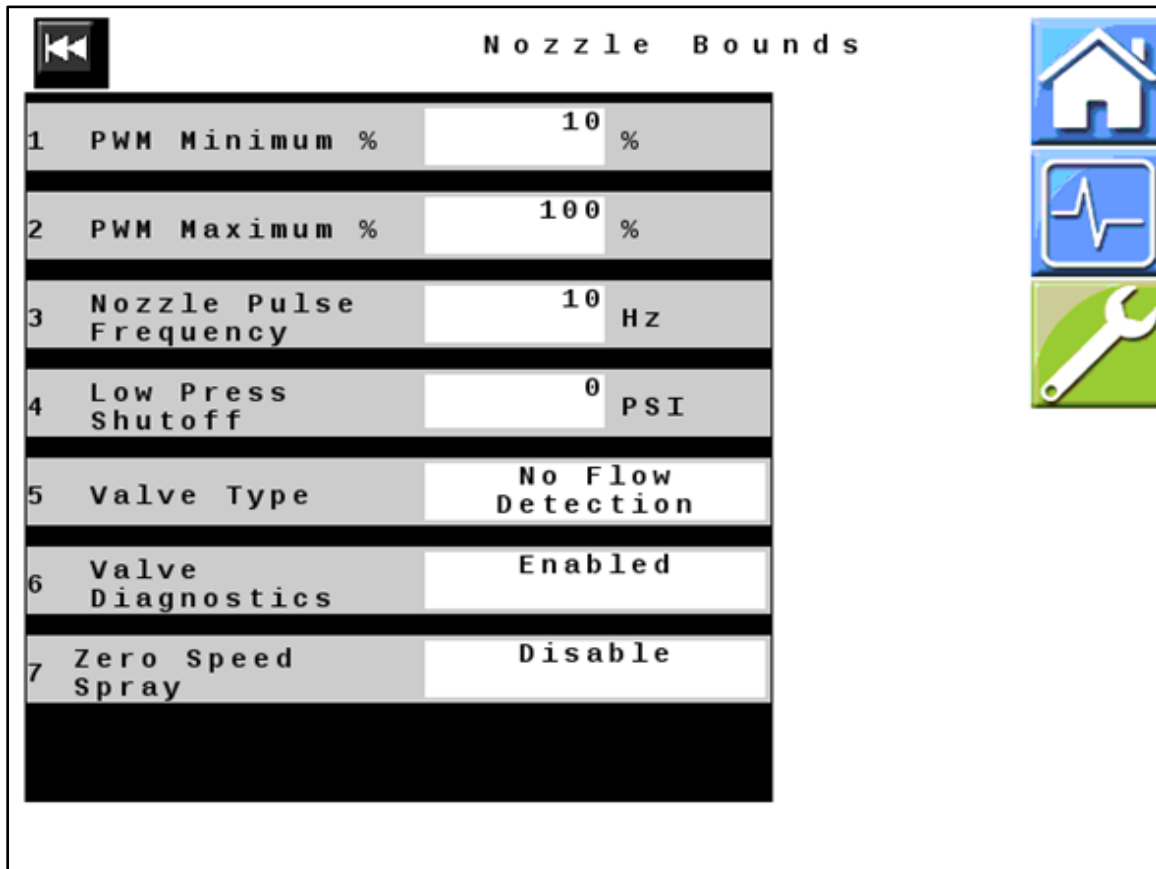

Figure 9 — Nozzle Bounds
16. *Figure 9*: The information in the fields on this screen is machine specific, verify that it is correct for your machine, and change any settings if necessary.